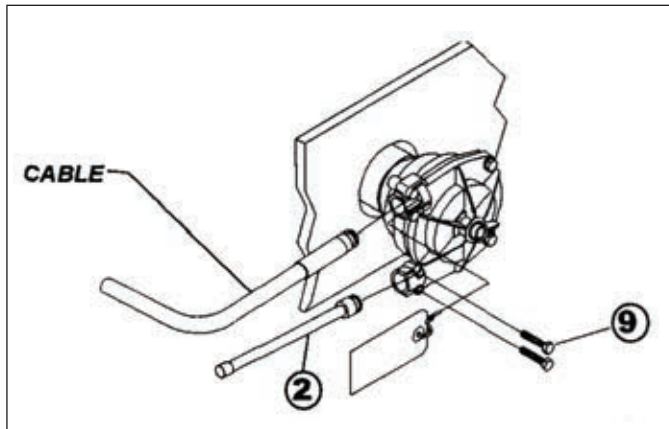

Figure 5.
STEP 2. Remove protective sleeve from cable end, making sure that dirt does not get onto the lubricated cable end. Feed cable end into **UPPER** helm entry spigot until it contacts the internal gear. Then turn steering wheel to draw cable fully into the helm, (see Figure 5). Continue turning wheel until end fitting of cable is entered into the entry spigot, and wheel cannot be turned further. During this you should hear a click as the locking mechanism engages. Turn steering wheel fully in the other direction until it cannot be turned any further, check that cable end fitting is retained inside the entry spigot.
STEP 5. Feed spent travel tube (Item 2, Figure 5) over the exposed cable end until it is fully seated in the helm. Secure the tube to the helm with bolts (item 9) and tighten fully.